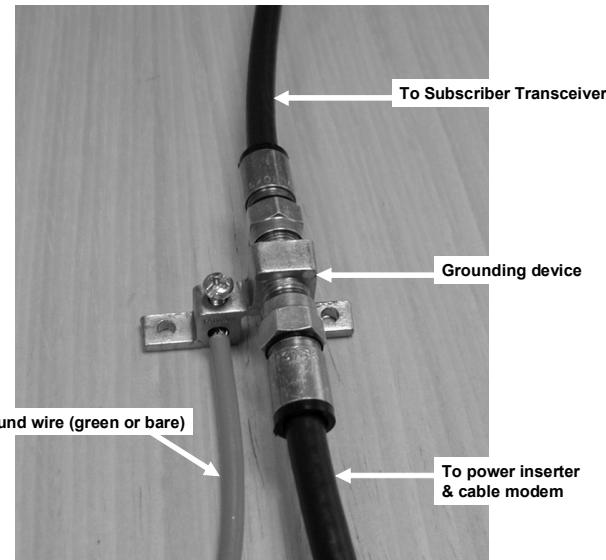

Figure 4-4: Grounding device at subscriber premises
- ☞ Mount a CATV system standard grounding device in Figure 4-4 as close as possible to the point of cable entry into the building. Connect the grounding device to a suitable “grounding electrode” as required per local building codes.³
☞ Connect the cable modem to the modem side of the DC power inserter as shown in Figure 4-4 and Figure 4-6. Complete installation of the cable modem using normal procedures.